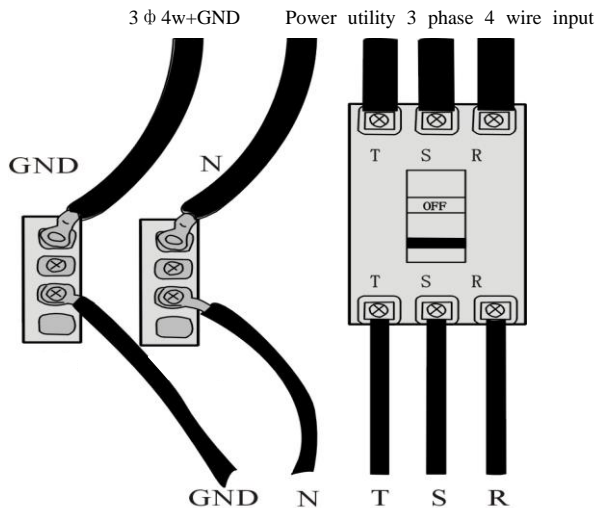

Figure 11
7. Avoid using same a switch with other equipment when connect to switchboard, try to connect to utility terminal.(Figure 11)